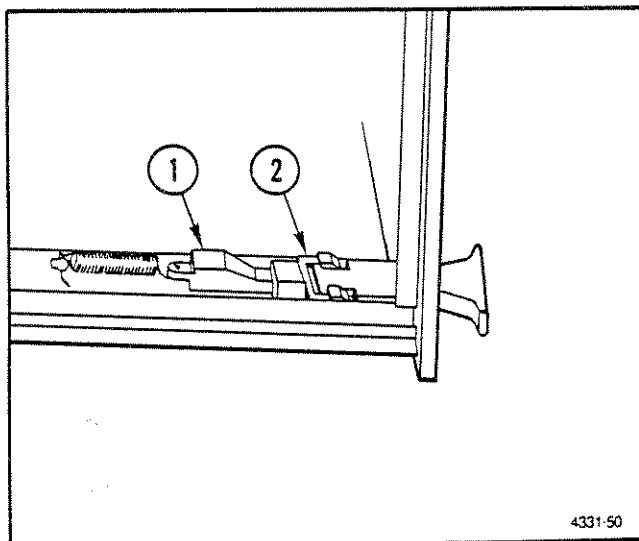

Fig. 7-6. Latch assembly pictorial.
- c. Remove the stand-off hex screws (4).
- b. Remove the front cover screws (2).
- c. Remove the latch assembly using the following procedure (refer to Fig. 7-6):